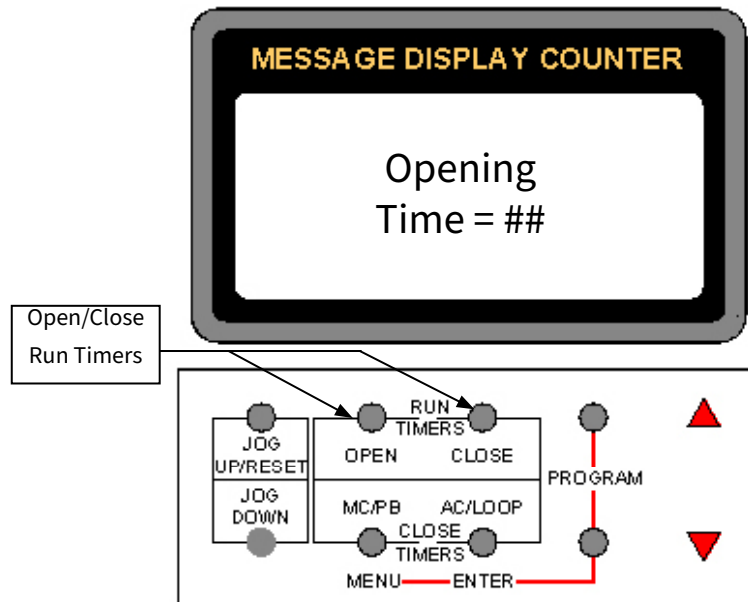

Figure 46: RUN TIMERS Buttons
- Press and release the open run timer button. Opening_time=## displays in the lcd. See figure 46.